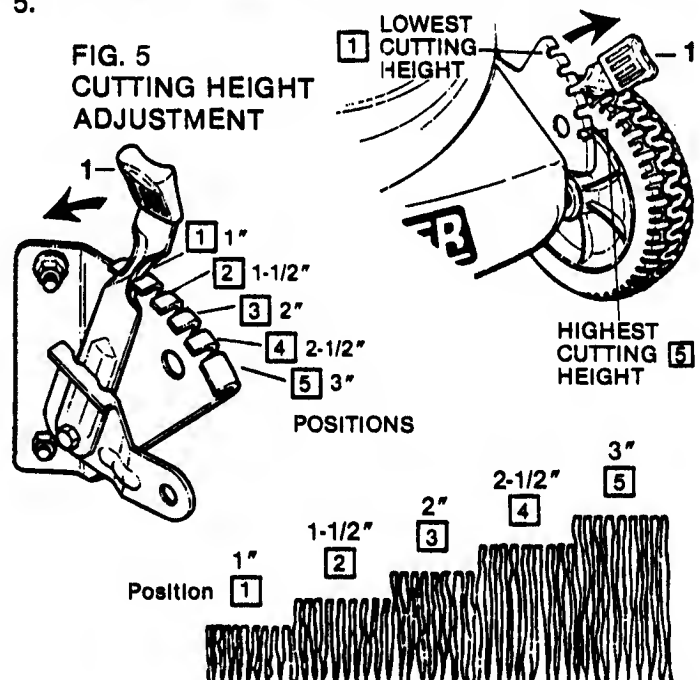

FIG. 5-A-CUTTING HEIGHT SETTINGS
- **CHECK** cutting height and adjust as needed, to suit the prevailing grass conditions. Refer to FIG. 5.
During dry seasons, allow the grass to grow taller than normal. Refer to FIG. 5-A.
NOTE: The highest cutting position is attained with the four latches set in notch 5. The lowest cutting position is with latches set in notch 1. Refer to FIG. 5.